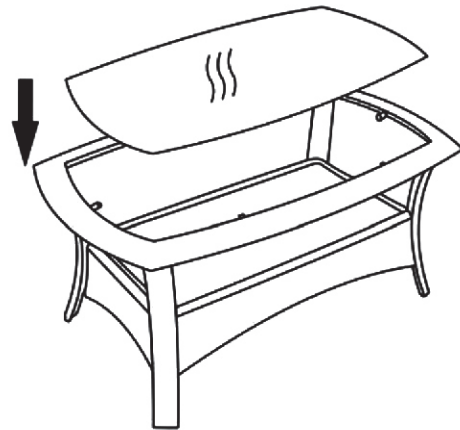

Figure 7
Step 10. Place the glass top on the table rim (See Figure7). Your table is now ready to use.